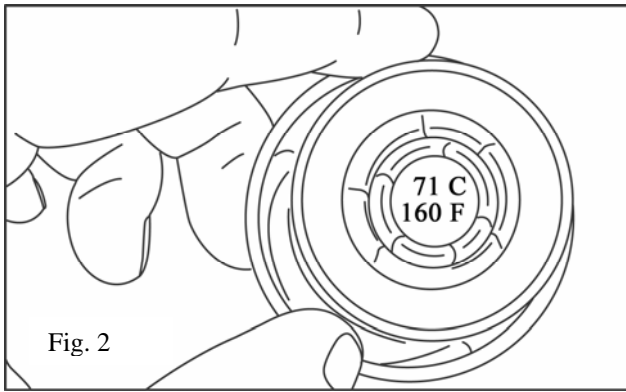

Fig. 2
- (d) **Check TRD thermostat.** Be sure Thermostat reads 71°C / 160°F on the inside bottom of the Thermostat. Fig. 2.